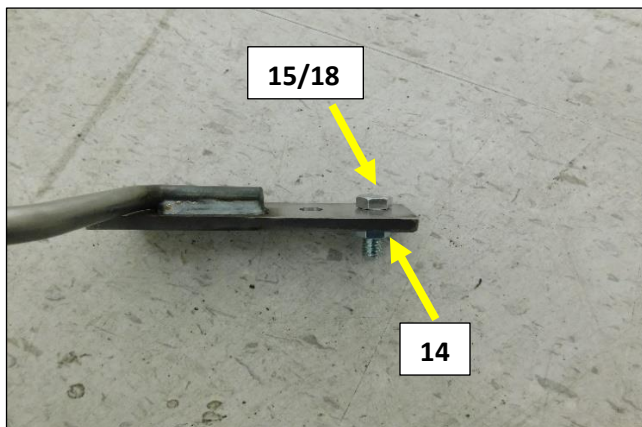

Figure 10
1. Install the 5/16-18 x 1 bolt (18) with 5/16 washer (15) and 3/8-16 nut (14) into the outer hole in the frame hanger mounting plate. **Fig. 10**